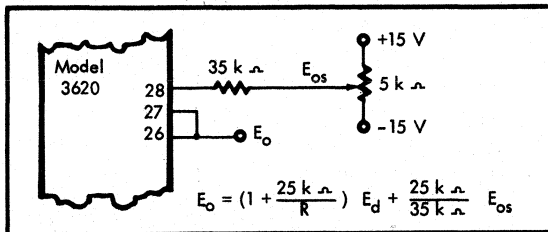

FIGURE 13.
2. Summing an offset current into the inverting input of the output op amp (pin 28) as shown in Figure 13.